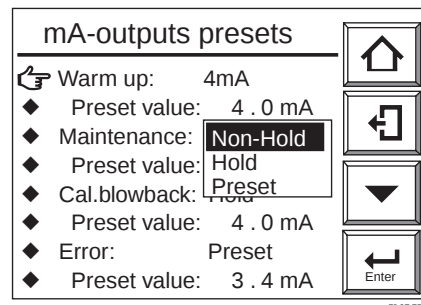

Figure 8.3
- (2) From this display (Fig.8.2), select the desired display. Figure 8.3 shows an example of selecting Maintenance. Select the desired output status.
- (3) If a preset value is selected, set the corresponding output current. If you select a preset value just below Maintenance, on the screen, the numeric-data entry display will appear. Enter the current value you want. To set 10 mA, type in 100 and press the [Enter] key to complete the setting.